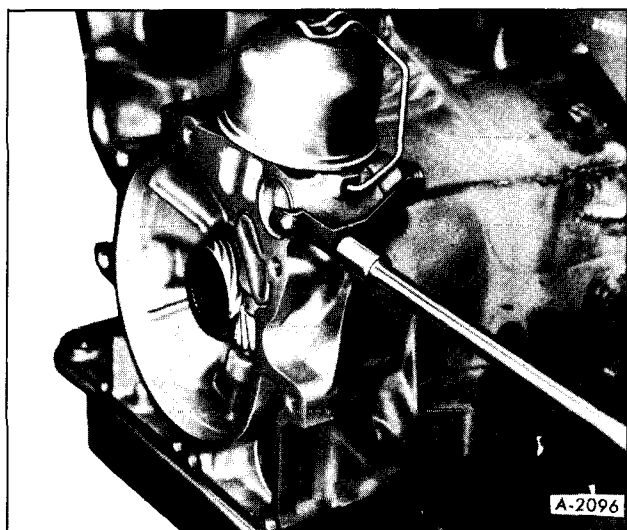

Figure 31—Removing Speedometer Driven Gear Retainer
2. Remove the speedometer driven gear attaching screw and retainer clip. (figure 31)